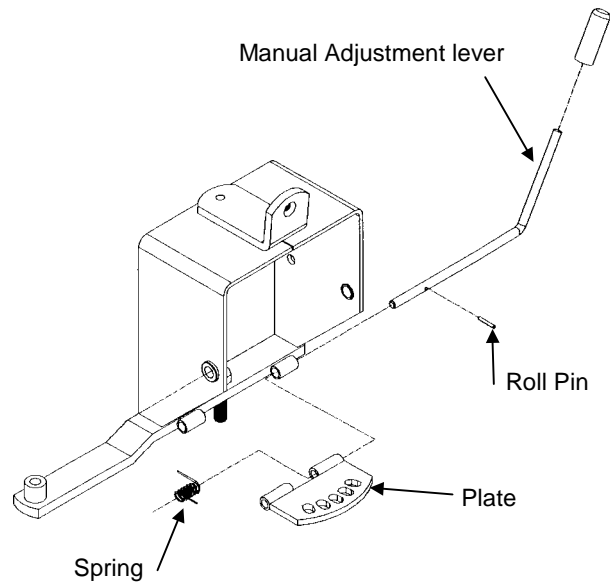

Figure 8
1. Remove manual angle adjustment lever (fig. 8, item 1) and broom plate (fig. 8, item 2) by removing the 3/16" x 1" roll pin and the spring.